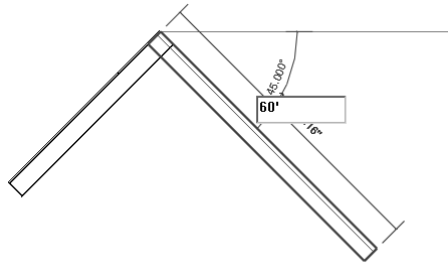

Figure 3-40 Sketching the second inclined wall segment
5. As the **Chain** check box is selected in the **Options Bar**, the second wall segment will start from the last specified point. Now, move the cursor downward toward the right and right-click to invoke the shortcut menu. Next, choose **Snap Overrides > Perpendicular** from the shortcut menu displayed; the perpendicular snap symbol appears at the end of the wall. Enter **60'**, see Figure 3-40; a wall is created perpendicular to the first inclined wall.